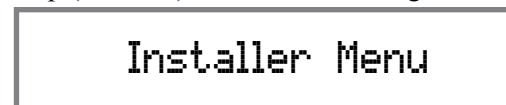

Figure 5
3. Press the SET UP Push-button on the MX160 Front Panel or the SETUP Push-button on the Remote Control. The Front Panel Information will now indicate “INSTALLER MENU” and the TV/MONITOR will display the MX160 “McIntosh Setup (Installer) Menu”. Refer to figures 5 and 6.
1. Press the SETUP Remote Control Push-button, to enter the Setup Mode. The Front Panel Information Display will indicate the “Installer Menu”. Refer to figure 5.